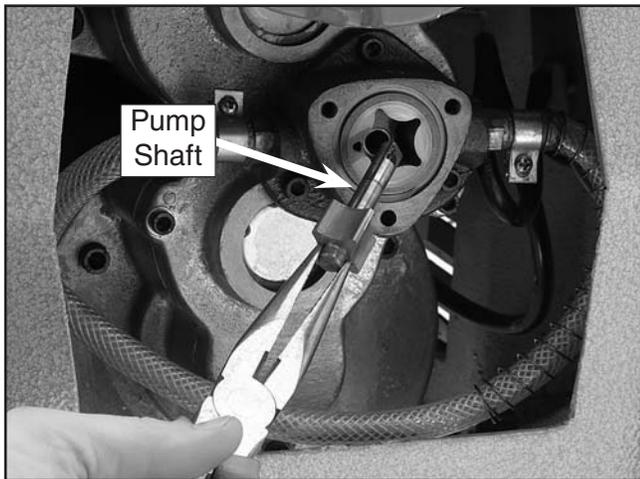

Figure 30. Pump shaft removed from pump for cleaning.
3. Using the pliers, pull the pump shaft out of the pump, as shown in **Figure 30**.